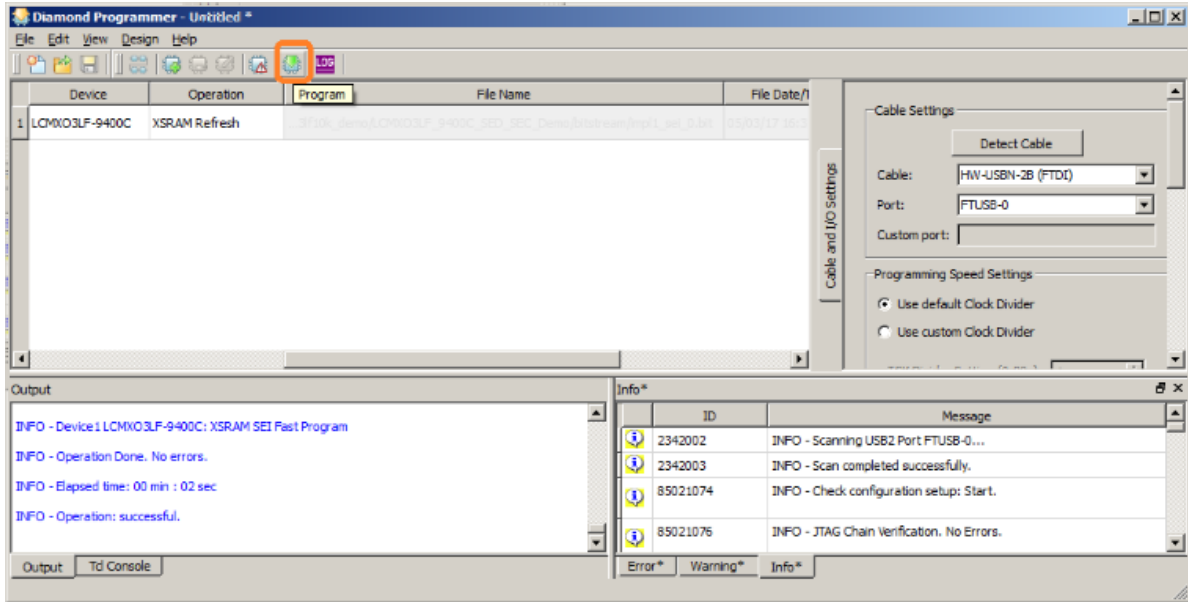

Figure 6.14. Starting XSRAM Refresh Programming Operation
- Click the **Program** button as shown in Figure 6.14 to initiate background programming of the device. The original design bitstream is loaded after the software reports “Operation: successful” while the logic is working.